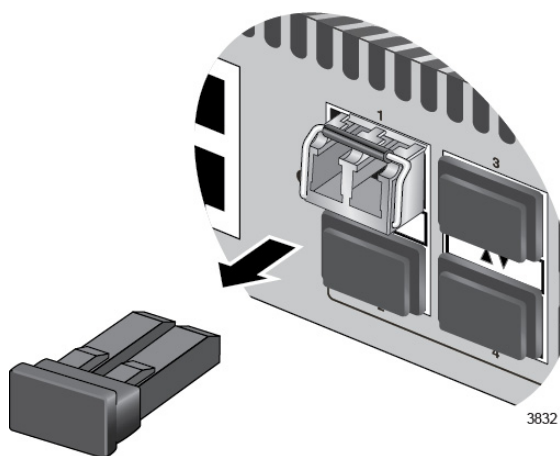

Figure 36. Removing the Dust Cover from a Transceiver
5. Remove the dust cover from the transceiver, as shown in Figure 36.